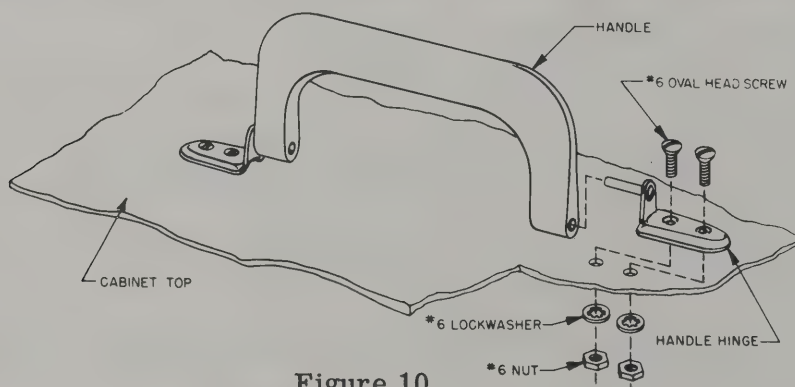

Figure 10
- (✓) 43. Mount the cabinet handle to the cabinet as illustrated in Figure 10. Use a lockwasher and nut on each #6-32 oval-head screw.